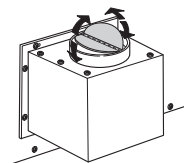

Fig. 4
- The extraction unit non-return valves are free to rotate. (Figure 4)